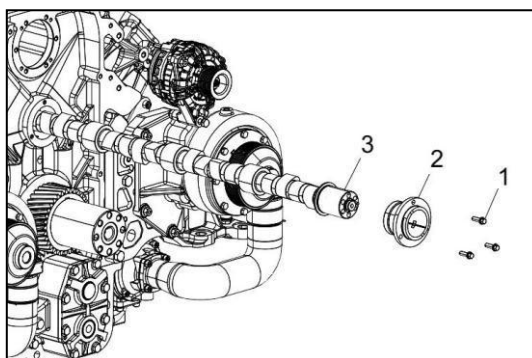

Figure 94
5. Remove the three bolts (Figure 94, 1) retaining the camshaft thrust bearing (Figure 94, 2)
6. Slowly pull the camshaft (Figure 94, 3) assembly out of the engine being careful not to damage the camshaft bushing.